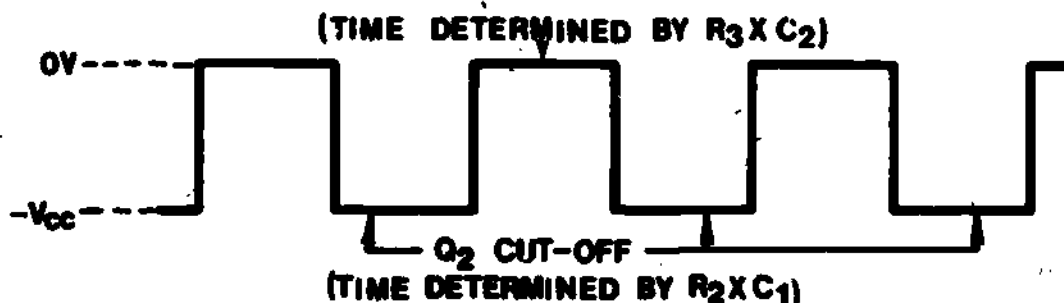

Figure 6
6. Let's analyze the output voltage from transistor Q2. Refer to Figure 6.